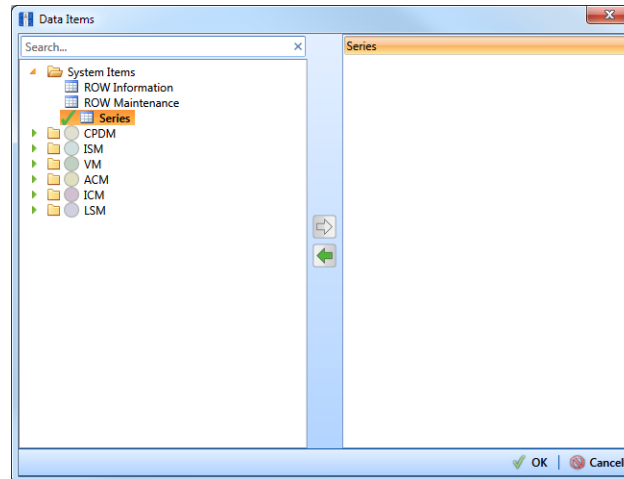

Figure 10-64. Data Items
- 7 Click  **Add Data Item** to open the *Data Items* window and then complete the following steps (Figure 10-64, page 515):